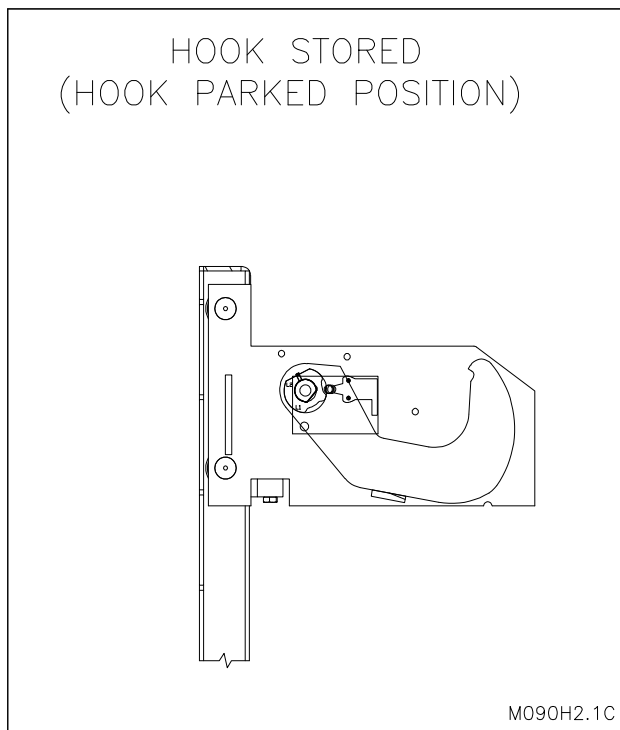

Figure 13: Hook Parked Position
1. Ensure the vehicle restraint has been returned to the **STORED** position (hook fully lowered). The **inside RED** light and the **outside GREEN** light must be illuminated. The audible alarm must be off (See "Figure 13: Hook Parked Position" on page 23).